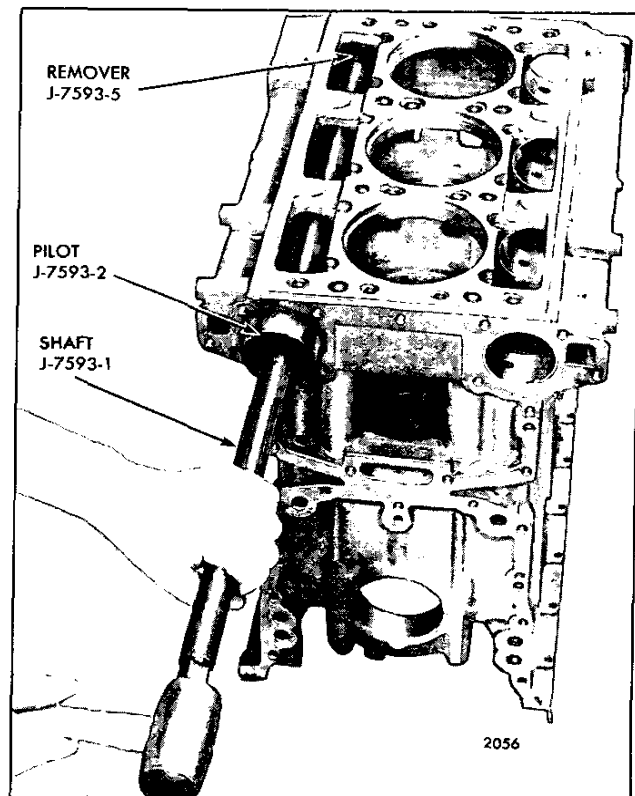
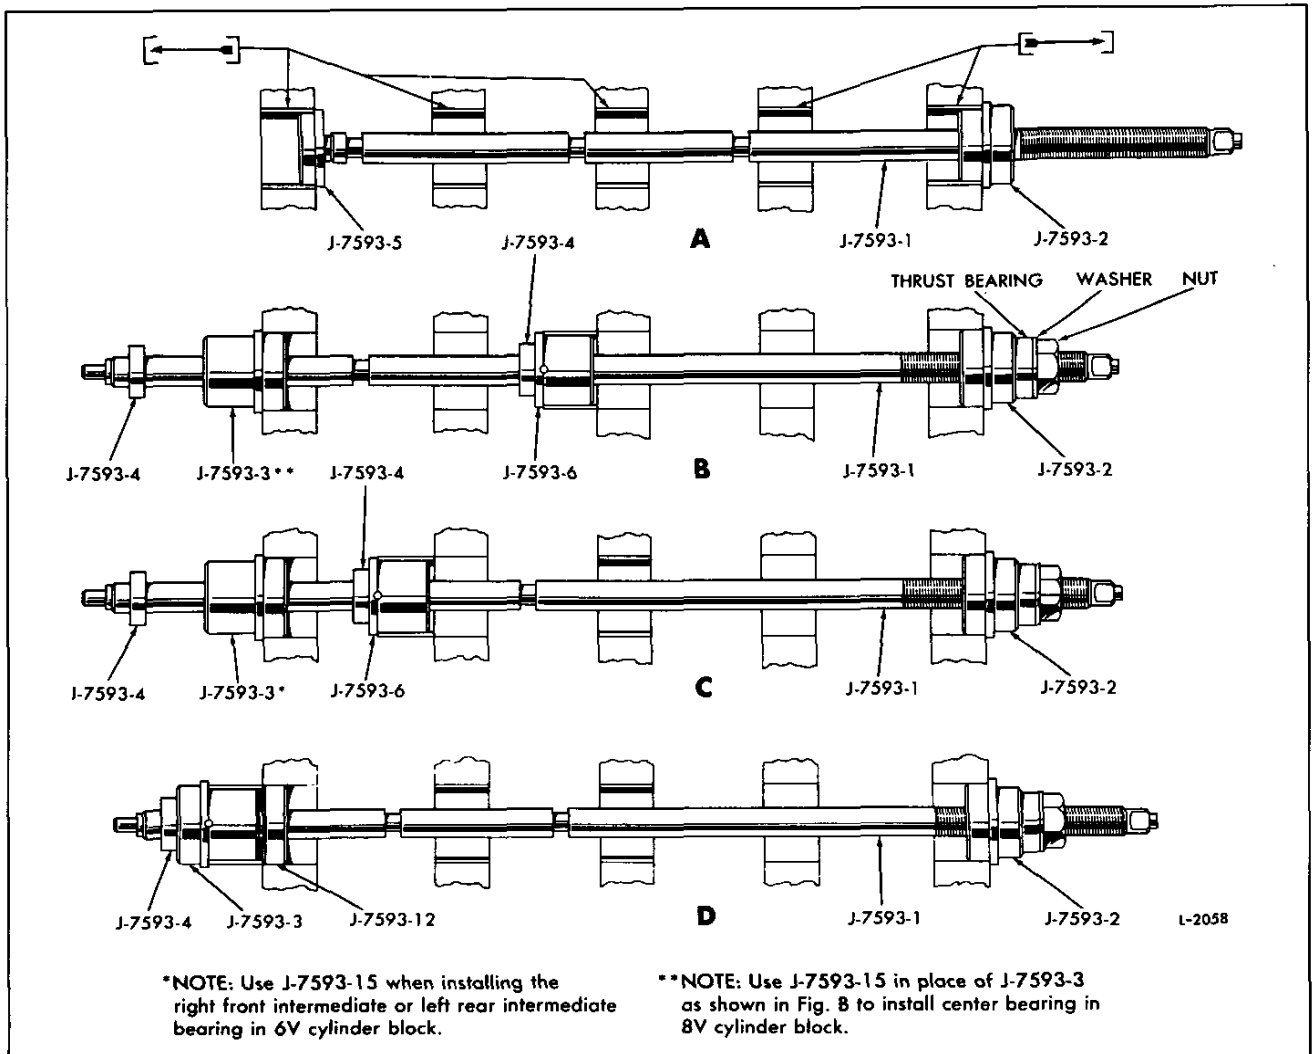
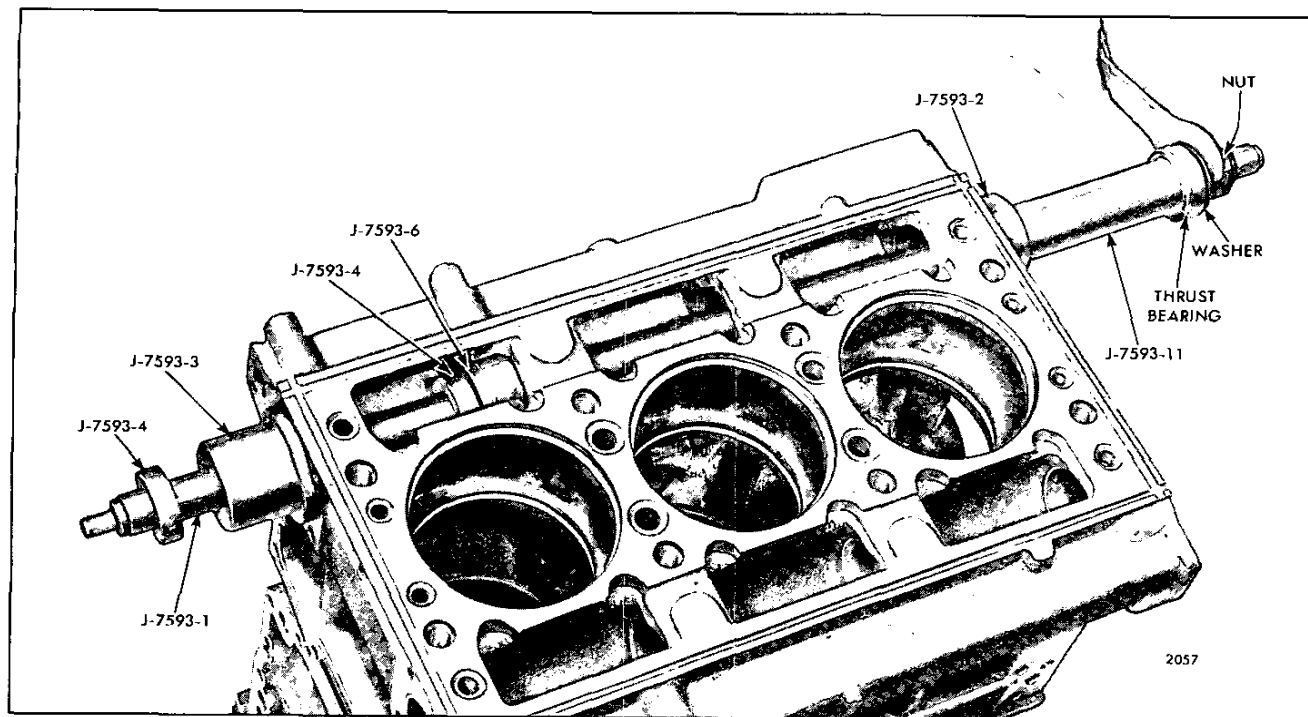

Fig. 5 – Removing End Bearing with Tools J 7593-1, J 7593-2 and J 7593-5
Fig. 6 – Removing and Replacing Camshaft or Balance Shaft Bearings with Tool Set J 7593-03
Fig. 9 – Installing Intermediate Camshaft Bearing Using Tool Set J 7593-03
1. Remove all accessories and assemblies with their attaching parts as is necessary so that tool set J 7593-03 may be used as shown in Fig. 5 and in A of Fig. 6.
1. Insert pilot J 7593-2 in the bore of the block (Fig. 9). Use the small end of the pilot if an end bearing has been installed. Refer to B and C of Fig. 6.
4. Slide installer J 7593-6 on the shaft until the locating pin registers with the notch in the bearing. Then, slide installer J 7593-3 or J 7593-15 on the shaft with the large diameter inserted into the end of the block bore. Refer to C and NOTE of Fig. 6.
5. Next, place a spacer (if required), thrust washer, plain washer and hex nut over the threaded end of the puller. The short spacer J 7593-11, shown in Fig. 9, is used on the 3-53 and 6V blocks.
1. Insert pilot J 7593-2 in the bore of the block as shown in "D" of Fig. 9. Use the small diameter of the pilot if a bearing has been installed.
5. Next, place a spacer (if required), thrust washer, plain washer and hex nut over the threaded end of the shaft as shown in "D" of Fig. 6 and, using a suitable wrench on the hex nut, draw the bearing into place until the shoulder on the installer prevents the shaft from further movement. The bearing is now installed in its correct position.